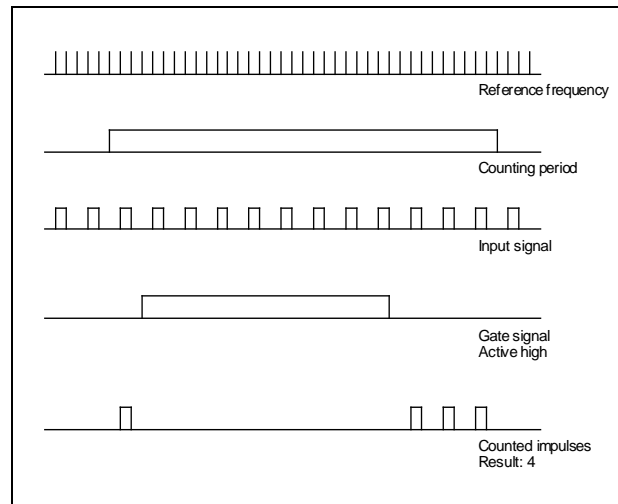

Fig. 5.13. Principle of the gate signal
9. the *Gate* input signal can be applied to stop the counting of the pulses of the input signal as well as to stop the counting of the counting period. If the *Gate* signal is equal to '1' the *Result* counter does not count pulses of the  $Fr_I$  input; if the *GateMode* parameter is set to '1' and the *Gate* signal is equal to 1 also the counter which determines the counting period is stopped. Fig. 5.13 illustrates the influence of the *Gate* signal when the *GateMode* parameter is set to '0'.